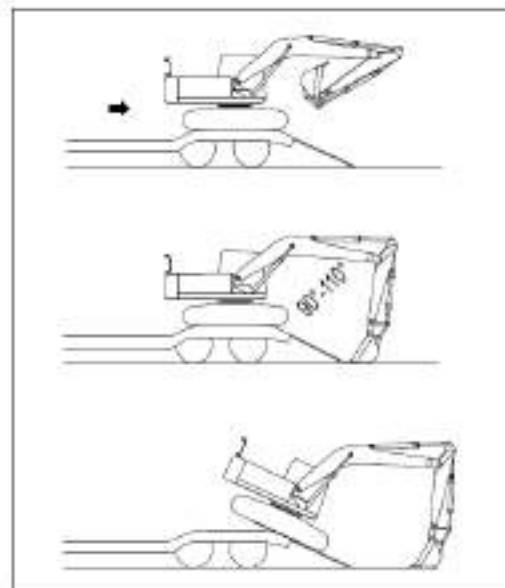

Figure 6-7 Precautions for unloading
j). When moving towards the ramp from the rear of the trailer, adjust the angle of the stick and the boom to 90-110 ° Drop the bucket to the ground, and then move the machine slowly (Figure 6-7).